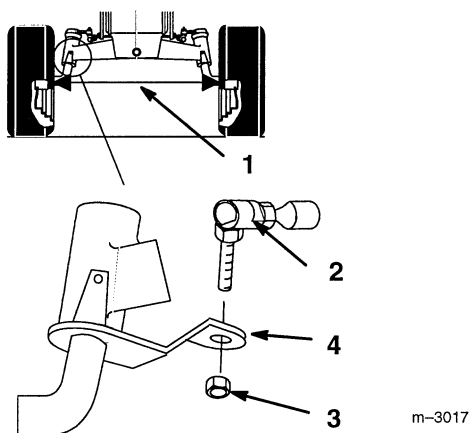

Figure 28
Maintain toe-in of the front wheels as specified. If uneven tire wear, lawn scuffing or hard steering develop adjustment may be required. Check the toe-in after every 100 operating hours or yearly, whichever occurs first (Fig. 28).
3. Measure, between the rims, at spindle level, in the front and rear of the wheels (Fig. 28).
2. Remove ball joint from one steering lever (Fig. 28).